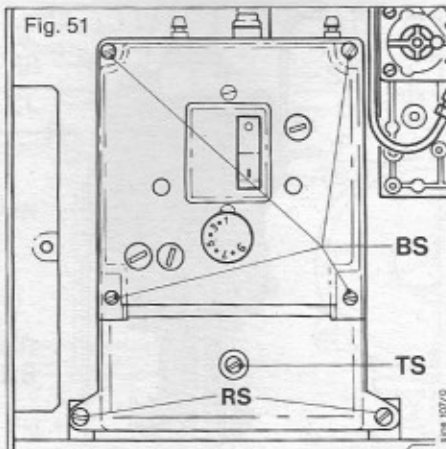

Fig. 51
Access to the gas section can be improved by removing the retaining screw (RS, Fig. 51) and pulling the control box forward.
14.6.1 Opening control box (Fig. 51)
Isolate the appliance from the electrical mains. Open the main terminal box (screw TS, fig. 51).
Unscrew two retaining screws (RS, fig. 51), securing the control box to appliance chassis. Pull complete box forward to release clip — the retaining chain will support the box.